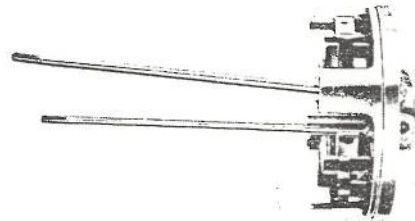

Fig. 10-101
- (4) Remove the brush terminal fixing screw and then remove the rear cover from the yoke. (Fig. 10-101)